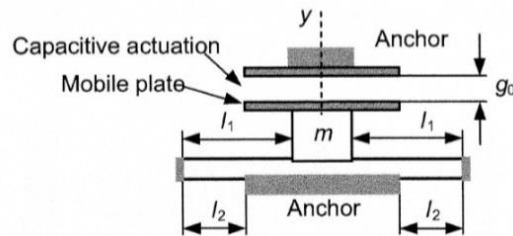

FIGURE 7.46
- 7.35** The MEMS of Figure 7.46 is formed of two pairs of beams and a shuttle mass and is subjected to capacitive actuation. Use a lumped-parameter model to formulate the system's mathematical model for the motion about the y direction by also taking into account the damping between the fixed and mobile capacitor plates. All beams have a circular cross section of diameter $d = 1.8 \mu\text{m}$. Known also are the shuttle mass $m = 8 \cdot 10^{-11} \text{ kg}$, $l_1 = 180 \mu\text{m}$, $l_2 = 90 \mu\text{m}$, Young's modulus $E = 160 \text{ GPa}$, and the damping coefficient $c = 0.4 \text{ N s/m}$. Plot the system's response using its transfer function and MATLAB's `impz` function when an impulsive electrostatic force $f = 1.2 \cdot 10^{-6} \delta(t) \text{ N}$ is applied by the capacitive unit superimposed to an initial displacement $y(0) = 1.4 \mu\text{m}$. The transfer function is $G(s) = Y(s)/F(s)$. Ignore the mass contribution from the springs and verify whether the initial capacitive gap $g_0 = 10 \mu\text{m}$ is sufficient for the mobile plate motion.